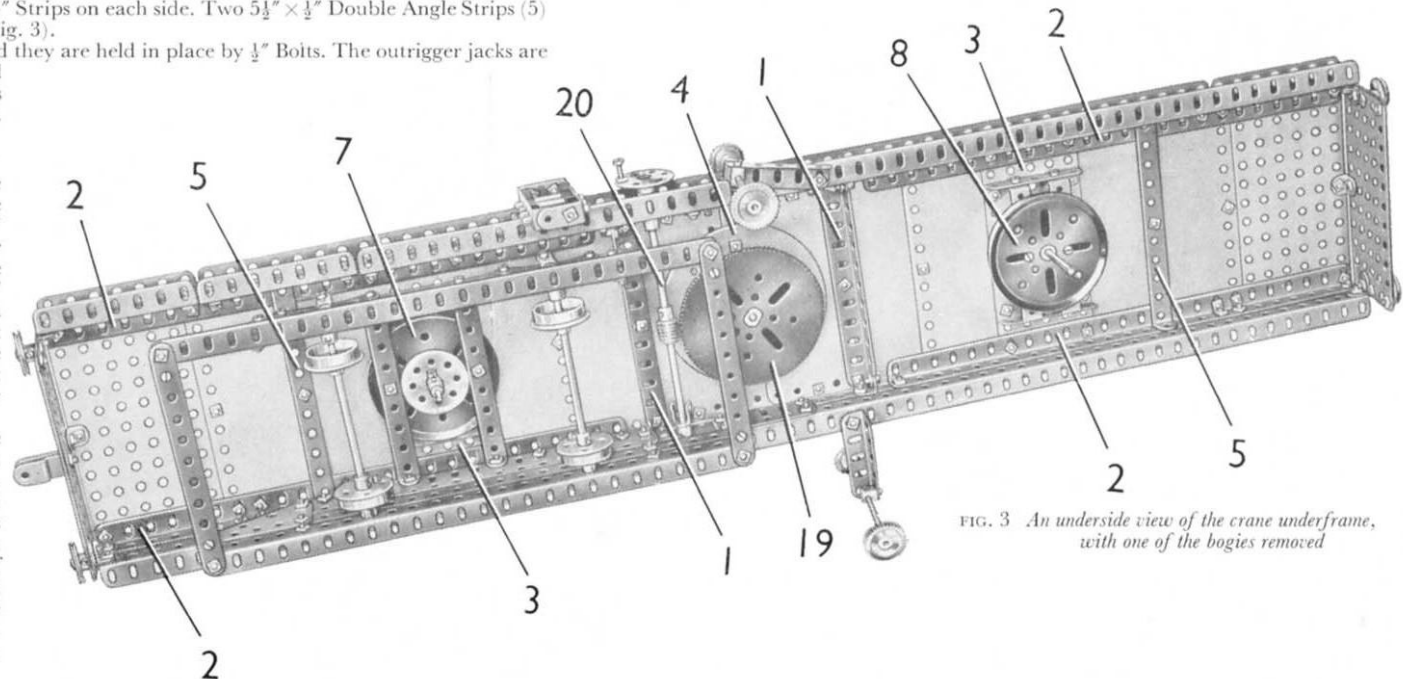

FIG. 3 An underside view of the crane underframe,
### Crane Truck Underframe (Fig. 3)
Two  $12\frac{1}{2}$ " Angle Girders (2) are fixed to each side-member and to these are bolted the Plates that fill in the top of the underframe. The top is formed by a  $5\frac{1}{2}$ "  $\times$   $3\frac{1}{2}$ " Flat Plate at each end, two  $5\frac{1}{2}$ "  $\times$   $2\frac{1}{2}$ " Flat Plates (3), ten  $5\frac{1}{2}$ "  $\times$   $2\frac{1}{2}$ " Flexible Plates, and another  $5\frac{1}{2}$ "  $\times$   $3\frac{1}{2}$ " Flat Plate bolted to the centre of the underframe. A 4" Circular Plate (4) is fixed to this Flat Plate. The Plates that fill in the top are connected along their outer edges by two  $12\frac{1}{2}$ " Strips on each side. Two  $5\frac{1}{2}$ "  $\times$   $\frac{1}{2}$ " Double Angle Strips (5) are fixed across the underframe as shown (Fig. 3).
A  $3\frac{1}{2}$ " Rod is passed through the Strips (18) and is fixed in the boss of the Bush Wheel that is bolted to the Circular Plate attached to the cab. The Rod is passed freely through the Bush Wheel fixed to the Hub Disc, and through the centre of the 6" Circular Plate attached to the underframe. A  $3\frac{1}{2}$ " Gear (19) (Fig. 3) is fixed to the Rod, but is spaced from the underframe by four  $\frac{3}{4}$ " Washers and a Collar.
The cab can be rotated on the roller bearing by turning a Bush Wheel on a  $6\frac{1}{2}$ " Rod (20) (Fig. 3). This Rod is held in place by a Collar and a small Fork Piece, and it carries a Worm that engages the  $3\frac{1}{2}$ " Gear (19).